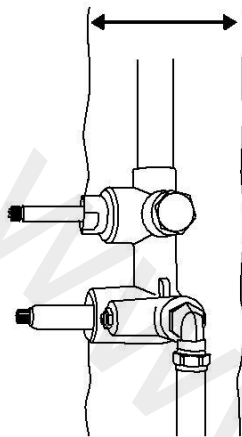

Fig 1
1. Create a rectangular cavity in the wall where the valve is to be installed, 200mm x 160mm for twins and 250mm x 160mm for triples and between 75mm and 90mm deep. (Fig 1)